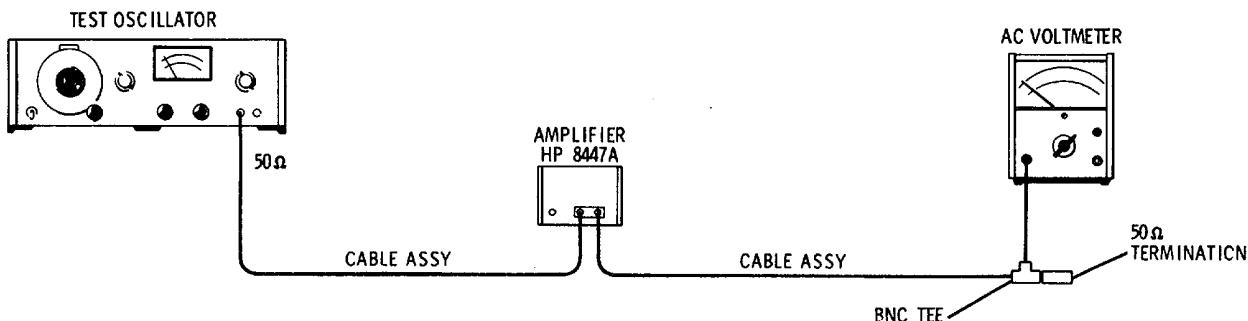

Figure 4-2. Flatness Test Setup: 100 kHz to 1 MHz
9. Connect the test setup as shown in Figure 4-2. Set the Model 400E to the -20 dB range and adjust the Model 651B output at 1 MHz to obtain the same relative reading from 0 dB on the Model 400E as measured in step 8. Note the level variation on the Model 400E as the Model 651B frequency is tuned from 1 MHz to 100 kHz.